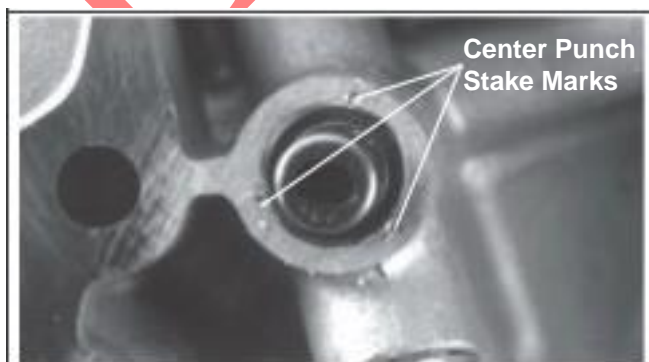

Figure 11-17. Center Punch Stake Marks.
2. Stake the casting boss with a center punch in 3 or 4 locations near the inner edge to lock the relief valve into place. See Figure 11-17. **Do Not** use Loctite®.